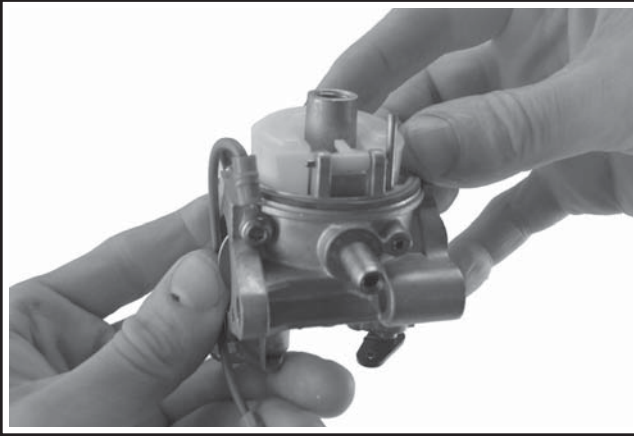

Figure 5-10. Installing Float and Fuel Inlet Needle.
- Insert the fuel inlet needle into the float. Align the needle with the seat and lower the float into the carburetor body. See Figure 5-10. Install the float shaft.